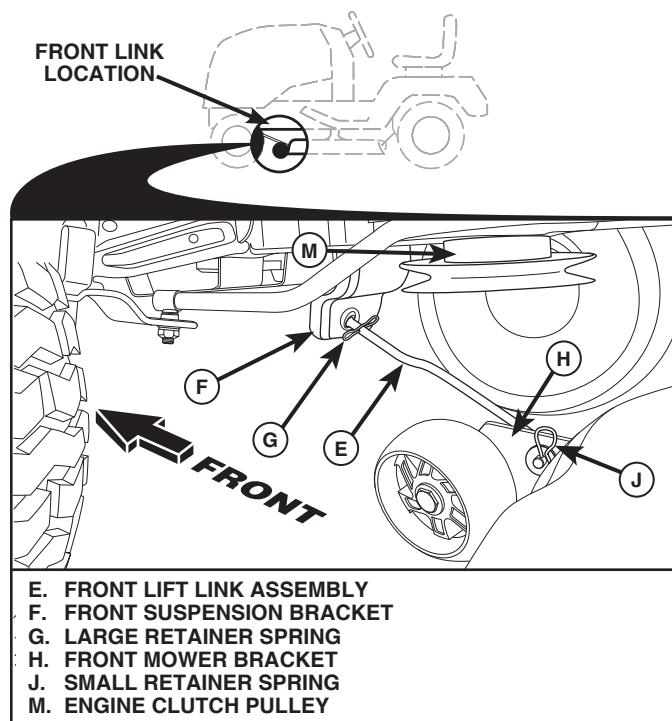

Fig. 12
8. ATTACH FRONT LINK (E) (See Fig. 12)
- From front of tractor, insert rod end of front link (E) through front hole in tractor front suspension bracket (F).
- Move to left side of mower and insert large retainer spring (G) through hole in front link (E) behind front suspension bracket (F).
- Insert other end of link (E) into hole in front mower bracket (H) and secure with washer and small retainer spring (J).